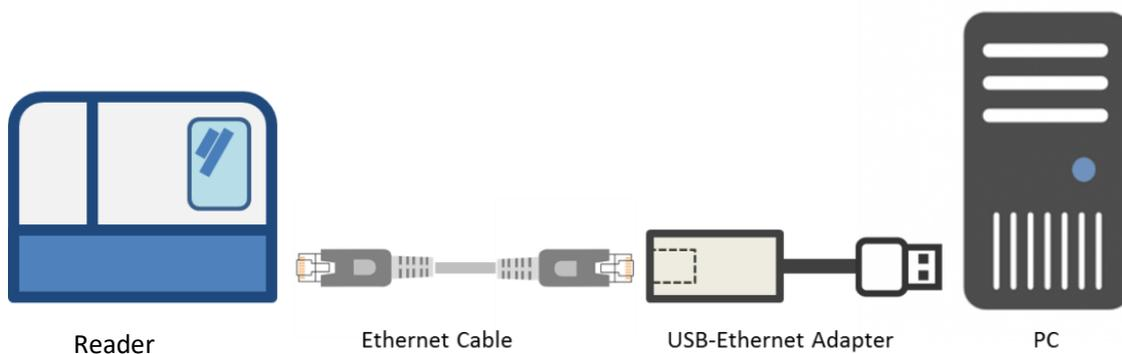

Fig 2: PC link Connection
5.1.1. Make sure the USB-Ethernet adaptor's driver is installed correctly on a PC and the Ethernet cable is connected according to Fig.2.
5.2.1. The Ethernet is connected as shown in Figure 2.